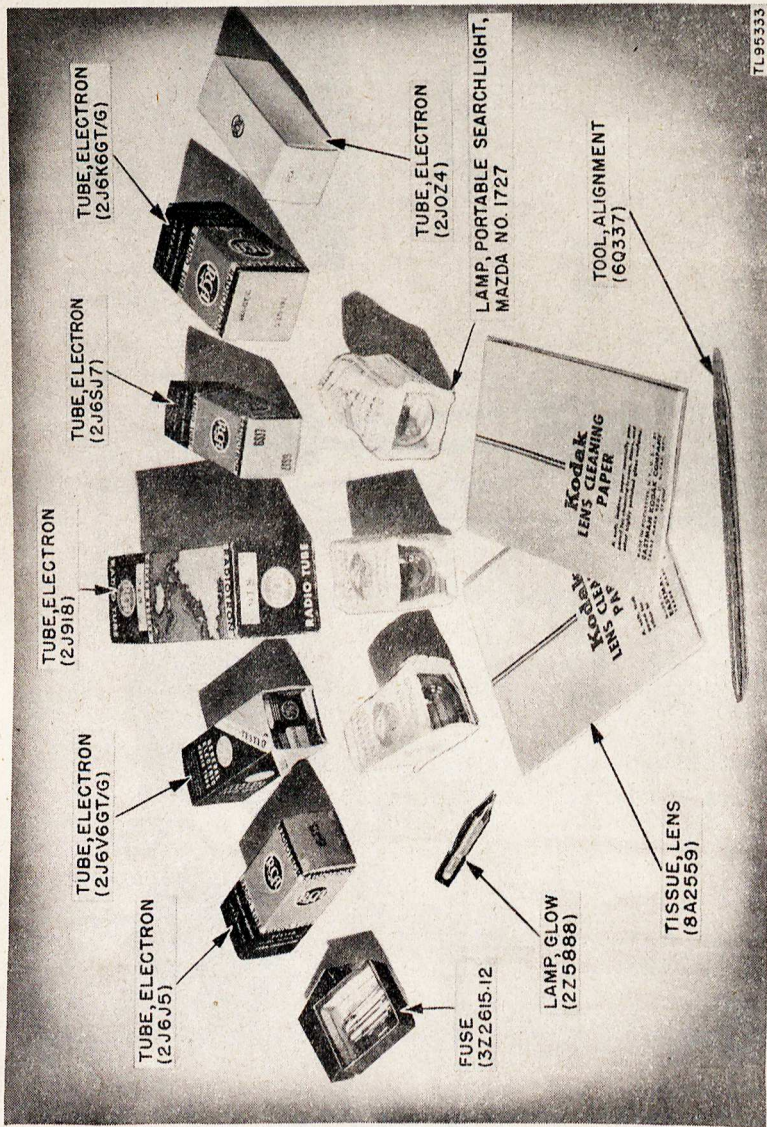

Figure 3. Spare parts.
⁷ Signal Corps stock numbers for spare parts are shown in figure 3.
d. Do not use any materials for cleaning the optical surfaces other than the lens tissue (fig. 3) issued with the equipment or a clean, soft, lintless cloth.